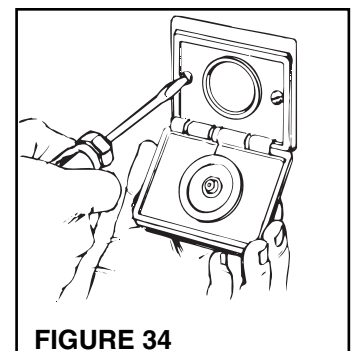

FIGURE 34
10. Insert wall inlet into bracket and secure with the two screws provided (Figure 34).